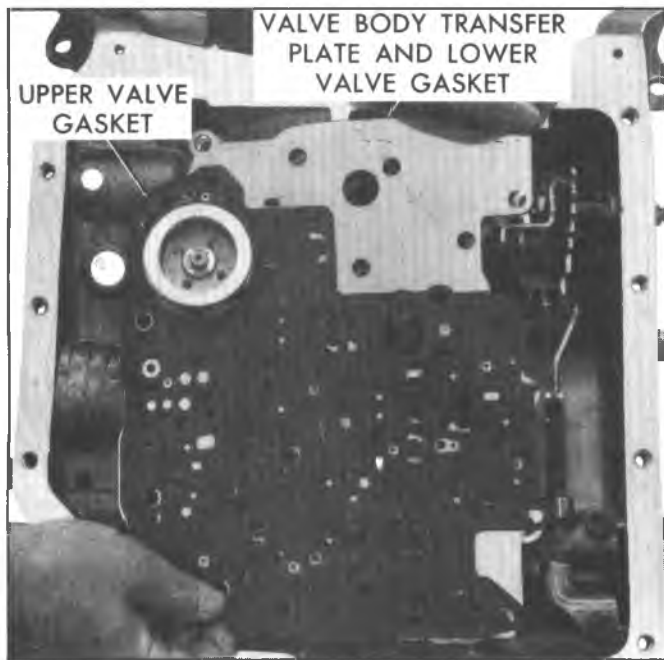

Fig. 14N--Removing Valve Body Transfer Plate and Gasket
6. Remove upper gasket, valve body transfer plate and lower valve gasket (fig. 14N).